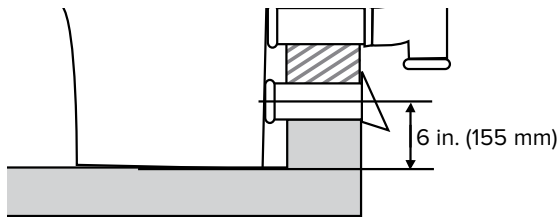

fig. 10
3. Install the supplied short vent pipes with the conical/beveled end towards the toilet; see fig. 10 and 11. Make a mark about $1\frac{1}{8}$ in. (40 mm) from the end of the pipe so you know how far to push the pipe into the toilet.